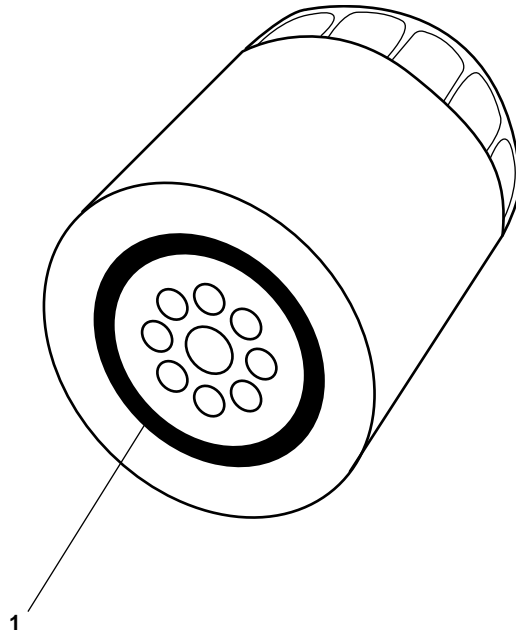

Figure 2. Oil Filter
4. Use a clean wiping rag and dry cleaning solvent to clean the oil filter's mounting base. Ensure that no remnants of the oil filter's sealing gasket (figure 2, item 1) remain on the mounting base.
2. Apply a thin film of clean air compressor lubricating oil to the oil filter's gasket (figure 2, item 1).
3. Install the new oil filter and tighten it until its gasket (figure 2, item 1) contacts the mounting base. Tighten the filter an additional 3/4 turn after the gasket contacts the mounting base.